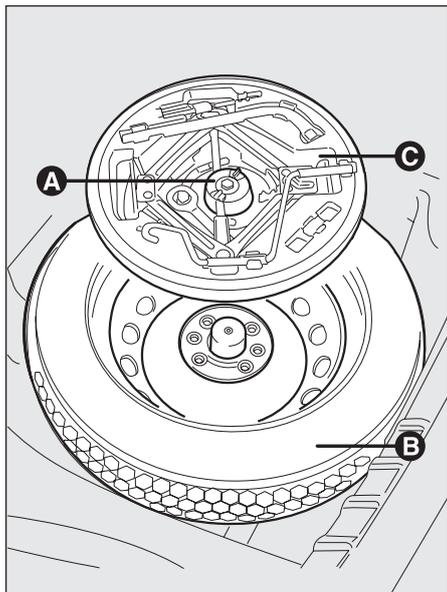

fig. 145
- unscrew the locking device A-fig. 145;